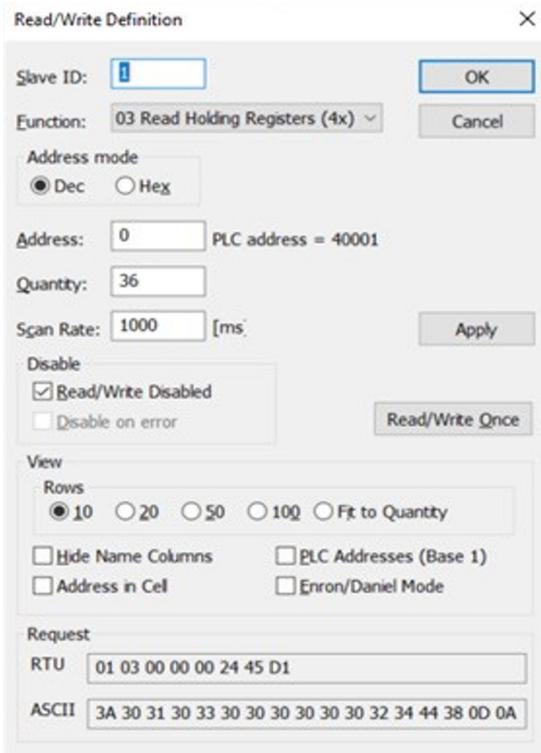

Figure 42.1. Read/Write Definition window.
- As shown in Figure 42.1, in the Read/Write Definition window, click on 03 Read Holding Registers in the Function drop down menu box.